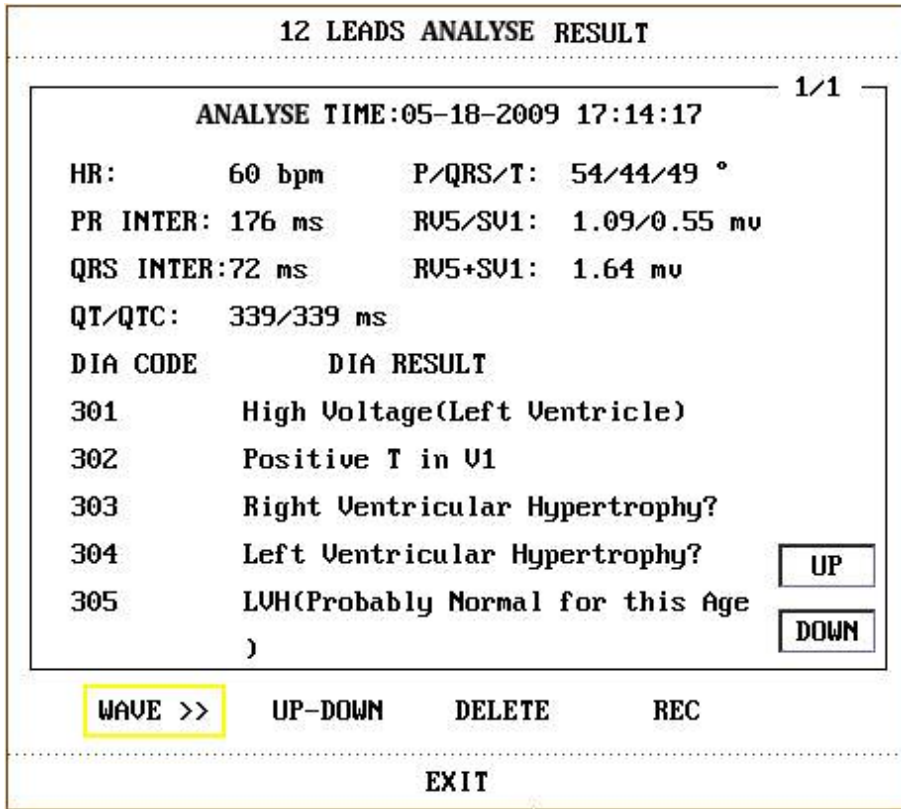

Figure 12-16 12-lead analysis results
- **ANALYSIS:** set to start the 12-lead analysis, the result will pop up after the analysis is finished, see figure12-16.